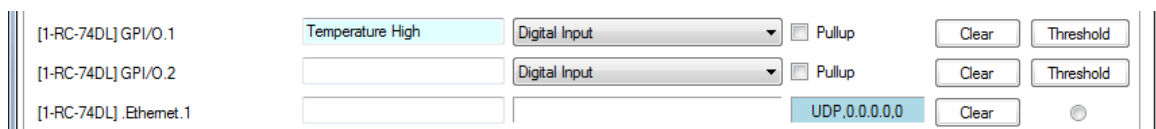

Figure 112: Port Manager – Selecting Digital Input for a Temperature Sensor
3. In the GPI/O.1 port, set the functionality of the port and name the port in the description box (for example, Temperature High for Digital Input, see Figure 112).